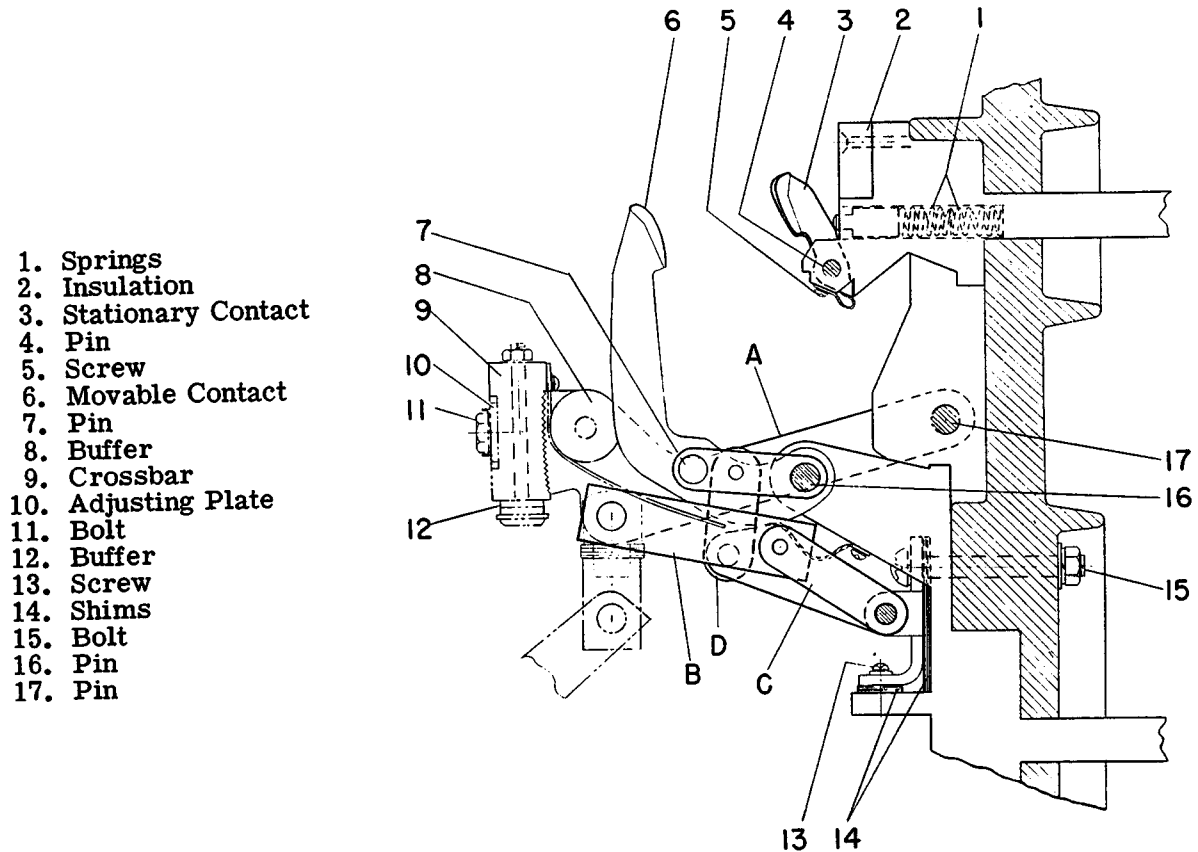

Fig. 17 (227D174) Field discharge contacts (center pole)
**AKF MECHANISM (Fig. 17)**
**Adjusting Center-pole Contact Wipe and Overlap (Fig. 17)**
4. If proper wipe cannot be obtained within the range of the adjustment described above, it will be necessary to obtain further adjustment by means of the vertical shims (14) provided for the purpose. In order to accomplish this, proceed as follows:
b. Loosen screw (13) and remove bolt (15).
c. Remove vertical shims (14) to decrease wipe; add to increase.
d. Replace bolt (15) and tighten screw (13).
**Adjusting Center-pole Open Contact Gap (Fig. 17)**
1. Loosen screw (13) and bolt (15).
2. If gap is to be increased, horizontal shims (14) should be removed. If it is to be decreased, they should be added. Shims may be removed by sliding them to the front of the breaker. They are slotted for easy removal. (Effect of this adjustment on contact wipe and overlap is negligible.)
**Stationary Contacts (Fig. 17)**
2. Remove screw (5) from braid.
3. Drift out pin (4) and remove contacts.
**Movable Contacts (Fig. 17)**
2. Remove tru-arc retainers on right side of pins (7) and (16).
3. Drift pins (7) and (16) to the left far enough to free movable contacts.
The auxiliary switch mounting and linkage on the AKF breakers are different from that of the standard AK breakers. Figures 17 and 19 show the difference in the mounting positions, with the AKF switches rotated 90 degrees with respect to the mounting position of the standard breaker switch. There is also a slight difference between the linkage of the AKF breaker switches, however the principle of operation remains the same.